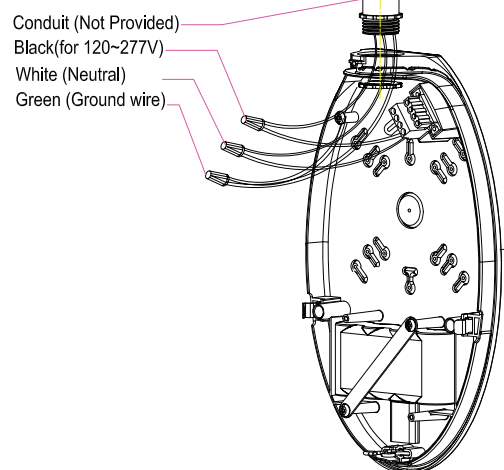

Figure 4
2. For photo sensor operation, leave the jumper between terminals 1 and 2 and slide the slide switch to the Photo Sensor position (see Fig. 4 for wiring connections). The photo sensor will turn the fixture on when the ambient lighting < 10 Lux, and off when the ambient lighting > 30 Lux.